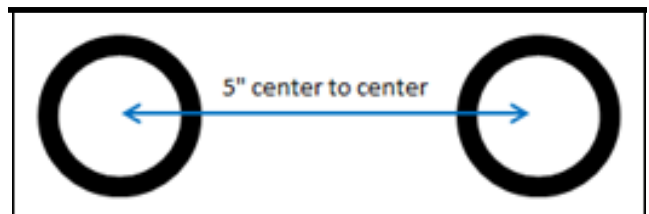

Fig. 3 — HDPE Pipes must be spaced 5" on center
- Vertical piping entering the flow center must be 1-1/4" HDPE, 5" on-center spacing of the pipes (see Fig. 3).